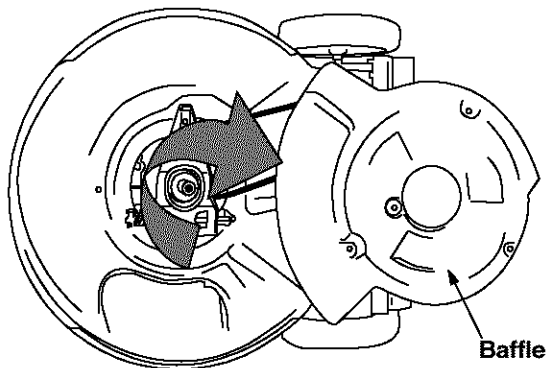

Figure 21
- Remove the three hex screws holding the baffle to the deck and pivot baffle towards the rear of the mower. See Figure 21.